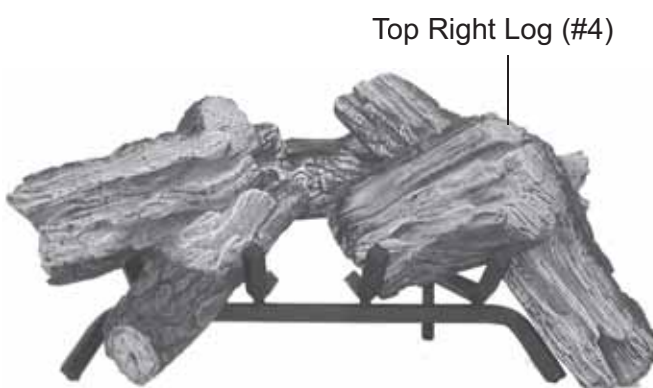

Figure 127 - Placing Top Right Log (#4)
5. Place Top Right Log #4 on Bottom Right Log #2 resting on grate. *See Figure 127.*